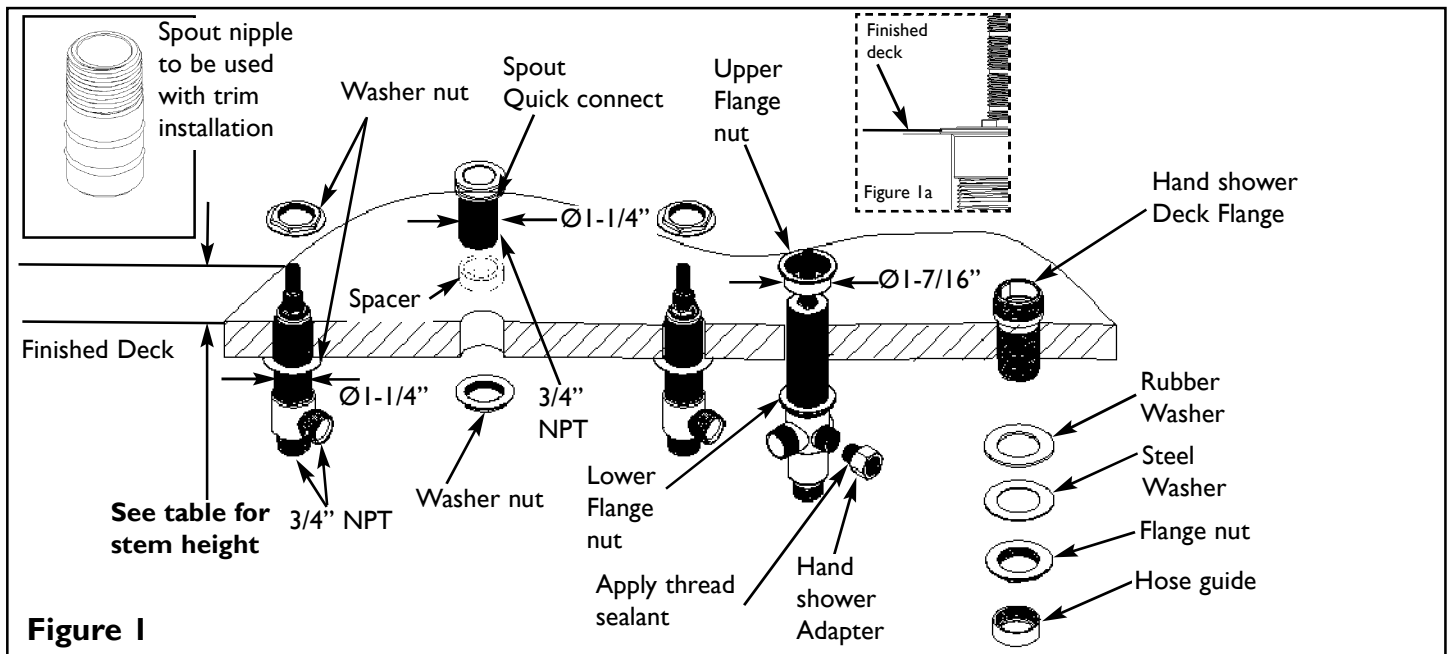

Figure 1
1. Install the spout quick connect shank through spacer and appropriate hole of mounting surface. Secure with washer nut. See Figure 1
3. Adjust stem height from finished deck per Table 1 and secure into place with upper washer nut. See Figure 1.